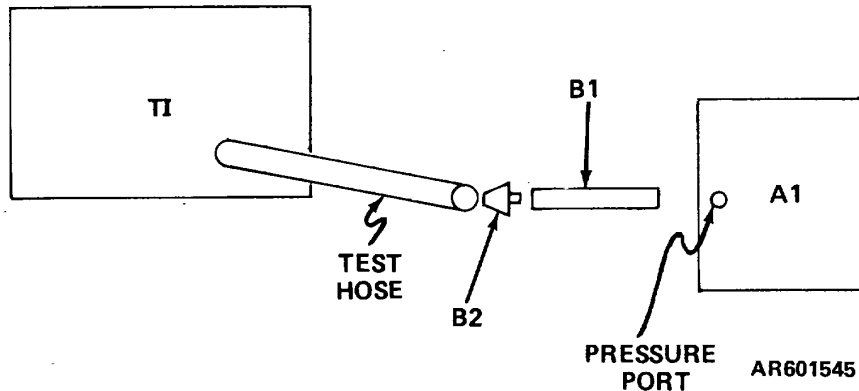

Figure 3. PRESSURE gage performance check, equipment setup.
- (1) Connect the test equipment as shown in figure 3.
- (2) Close valve (B1).
- (3) Slowly turn BLEED VALVE clockwise until the PRESSURE gage pointer is at "5" on the scale. The manometer (A1) must indicate as shown in table 4.
- (4) Repeat (3) above for each major division, (cardinal point) in the PRESSURE gage scale.